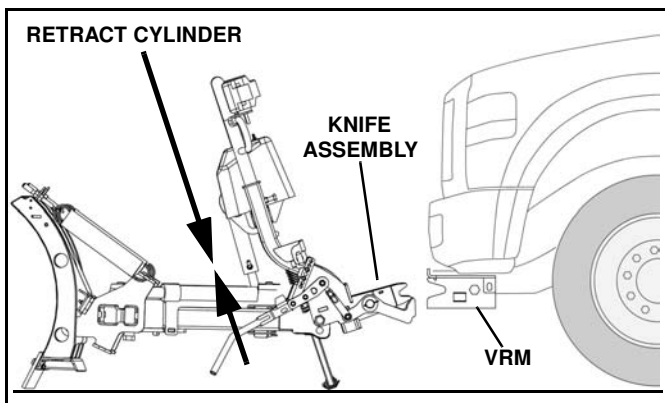

Figure 1-26
3. Retract the lift cylinder (raise the plow) until the A-Frame contacts the stacking stop. (See Figure 1-26).